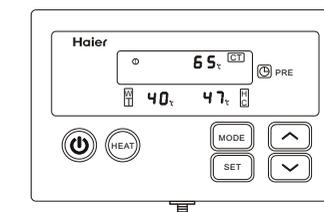

Fig.9 Temperature setting Interface for the first time Preset heating
- Indicating clock condition--to set hour of the first preset heating time in fixing time “ ① ” --to set minute of the first preset heating time in fixing time “ ① ” - -to set temperature of preset heating in fixing temperature “ ① ” -- to set hour of the second preset heating time in fixing time “ ② ” -- to set minute of the second preset heating time in fixing time “ ② ” ---to set temperature of the second preset heating in fixing temperature “ ② ” ---indicating clock condition. For example: to set the temperature of the first preset heating, and for the indication interface, see Fig. 9.